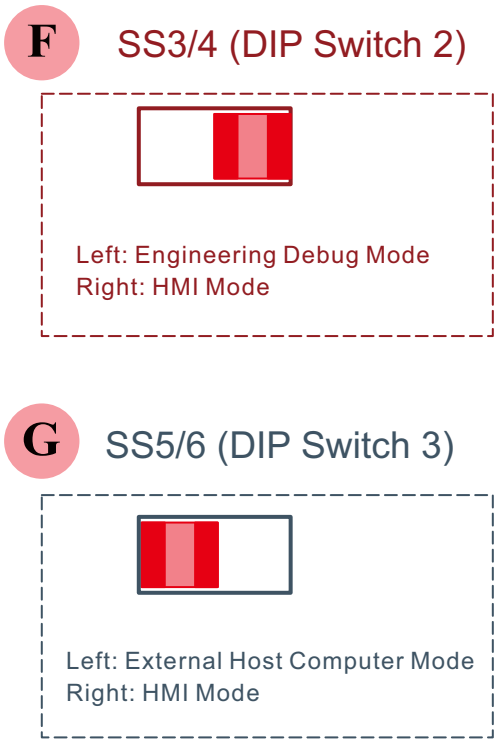

Figure 7 SS3/4 and SS5/6 Positions in External Host Computer Mode
4. In External Host Computer Mode (set DIP switch SS3/4 to the right side, SS5/6 to the left side, as shown in Figure 7 "SS3/4 and SS5/6 Positions in External Host Computer Mode"): Run commands, etc., can be controlled via host computer communication.